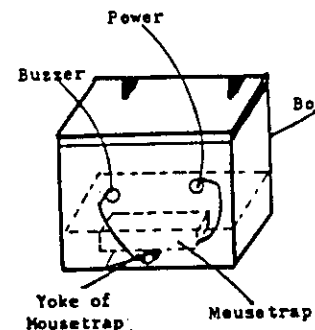

Figure 383 Pressure Release Device Booby Trap
2. A "Pressure Release Device" can be made by using a mousetrap with the holding lever and bait platform removed. Make a small wooden box with the four sides extending about  $\frac{1}{2}$  inch below the bottom of the box. Screw or bolt the mousetrap to the bottom of the box with yoke side away from the bottom. One lead wire has to be attached to the yoke and another lead wire must be attached to a metal plate located on the front of the mousetrap so that when the yoke is against it the circuit will be closed. When the yoke is drawn back to the "setting" position, the box can be carefully set down. The weight of the box will keep the yoke in check, but when the box is lifted it will complete the circuit and the buzzer will go off. See Figure 383.